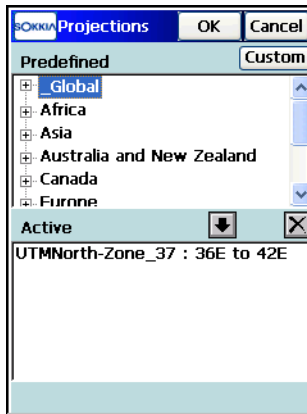

Figure 4-84. Projections
1. On the *Projections* screen, highlight the desired projection from the *Predefined* list (Figure 4-84).
To create a custom projection, tap the **Custom** button in the *Projections* screen (Figure 4-84 on page 4-65). The *Custom Projections* screen displays and contains a list of custom grid projections. Initially, this list is empty.